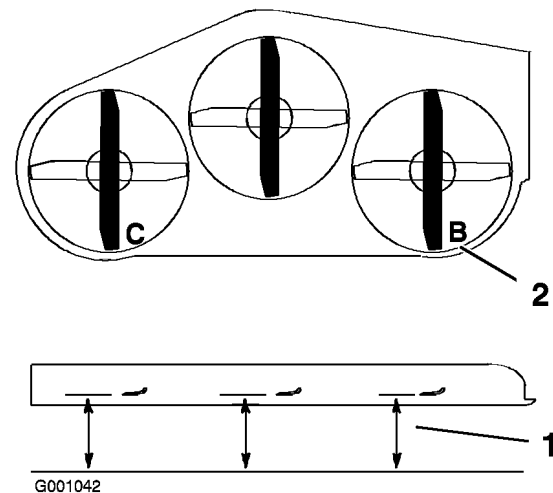

Figure 60
1. Position the **right** blade front-to-rear (Figure 60).
2. Measure the right blade at the **B** location, from a level surface to the cutting edge of the blade tip (Figure 60).
4. Position the left blade front-to-rear (Figure 60).
5. Measure the left blade at the **C** location (Figure 60), from a level surface to the cutting edge of the blade tip .